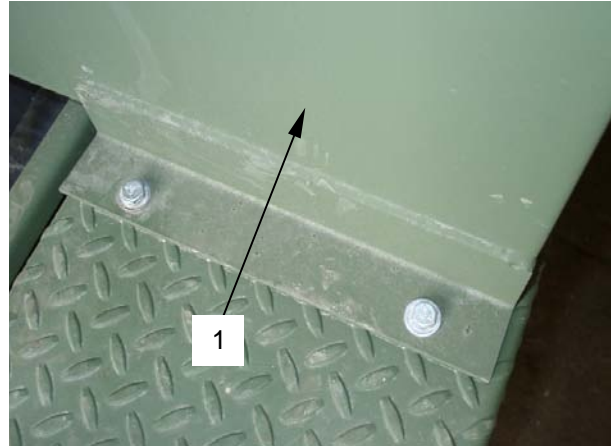
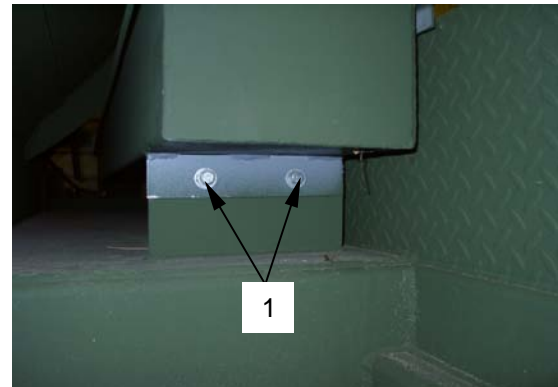

Figure 2. Equipment Tray Mounting Bolts
Figure 4. Rear Mounting Bolts
3. Loosen and remove equipment tray (**figure 2, item 1**) front mounting bolts, (**figure 3, item 1**) and rear mounting bolts (**figure 4, item 1**).
5. Remove equipment tray (**figure 2, item 1**).